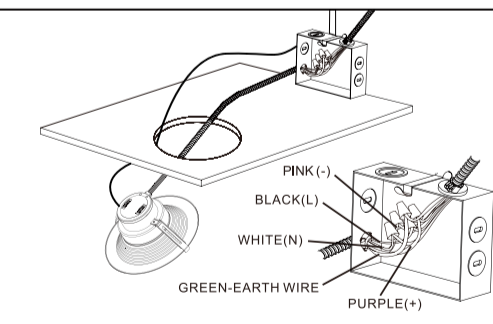

Fig4
**Step 4:** Connect AC and dimming supply cables inside the hardwire Junction Box(not included) by using 5 wire nuts in the following manner: black to black, white to white, pink to pink or grey, purple to purple, and green-earth to ground wire, see Fig4.